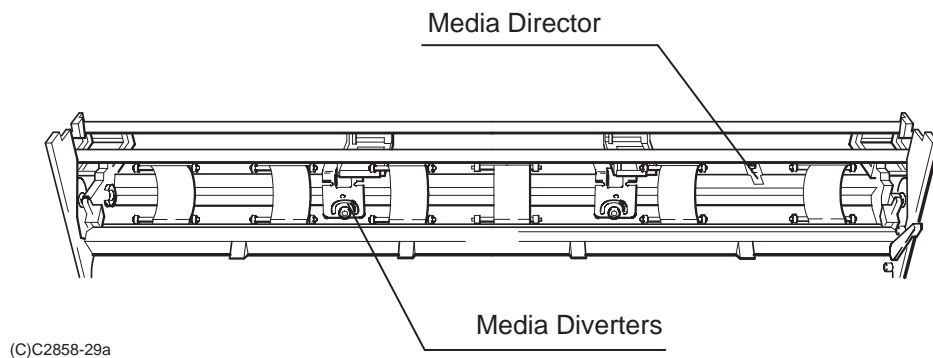

Figure 6-36.
7. Flex each media diverter and pull it free of the chassis assembly. See Figure 6-36.